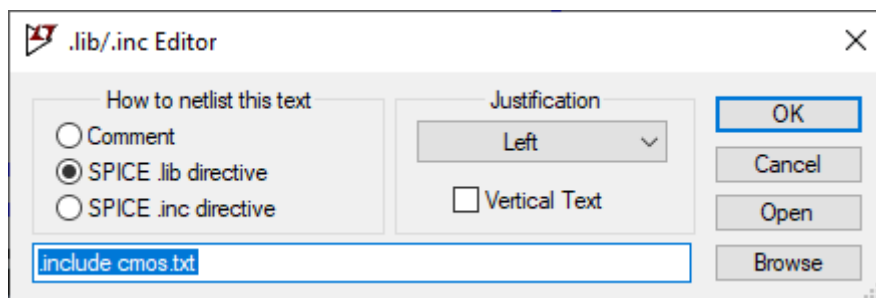

Fig. 1. Including cmos.txt
2. Click on SPICE directive `.op`, write: **.include cmos.txt** as in Fig. 1: